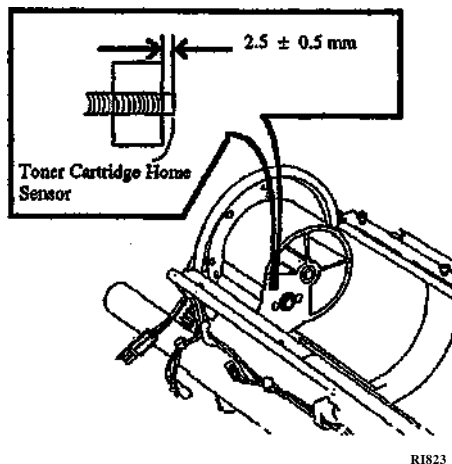

Figure 1. Checking the Position of the Toner Cartridge Home Sensor
3. (Figure 1): Check that the tip of the Toner Cartridge Home Sensor is 2.5 ± 0.5 mm from the plate.